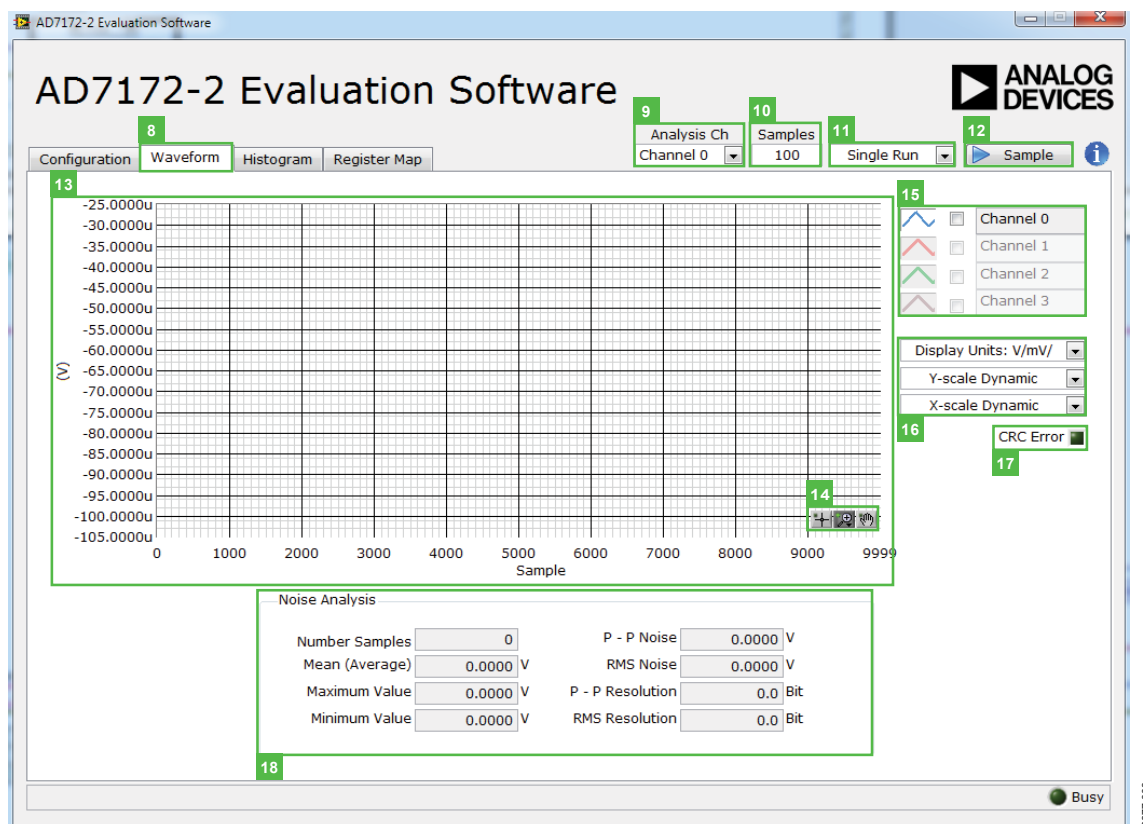

Figure 8. **Waveform** Tab of the **AD7172-2 Evaluation Software**
See Figure 8 for the **Waveform** (8) tab.
The **Noise Analysis** (18) section and Histogram Graph shows the analysis of the channel selected via the **Analysis Ch** (9) drop-down combo box (see Figure 8).
The **Samples** (10) numeric control and batch control (11) set the number of samples gathered per batch and whether only a single batch or multiple batches of samples are gathered. The **Samples** (10) numeric control is unrelated to the ADC mode. You can capture a defined sample set or continuously gather batches of samples. In both cases, the number of samples set in the **Samples** (10) numeric input dictates the number of samples (see Figure 8).
Click the **Sample** (12) button to start gathering ADC results. Results appear in the waveform graph (13) (see Figure 8).
The data waveform graph (13) shows each successive sample of the ADC output. The control toolbar (14) in the graph allows you to zoom in on the data. Click on the x-axis and y-axis to change the scales on the graph (see Figure 8).
inputs for that channel labeled next to the on and off controls (see Figure 8). These controls only affect the display of the channels and do not have any effect on the channel settings in the ADC register map
In the display units and axis controls box (16), click the **Display Units: V/mV/** drop-down combo box to select whether the data graph displays in units of voltages or codes (see Figure 8). This selection affects both the waveform graph and the histogram graph. The axis controls can be dynamic or fixed. When **Y-scale Dynamic** and **X-scale Dynamic** are switched on, the axis automatically adjusts to show the entire range of the ADC results after each sample batch. Click the drop-down arrows to select the fixed axis controls, which program the axis ranges to not adjust after each sample batch.
The **CRC Error** (17) LED icon illuminates when a cyclic redundancy check (CRC) error is detected in the communications between the software and the **AD7172-2** (see Figure 8). The CRC functionality on the **AD7172-2** is disabled by default and must be enabled for this indicator to work.
The **Noise Analysis** (18) section displays the results of the noise analysis for the selected analysis channel (see Figure 8). This section includes both noise and resolution measurements.